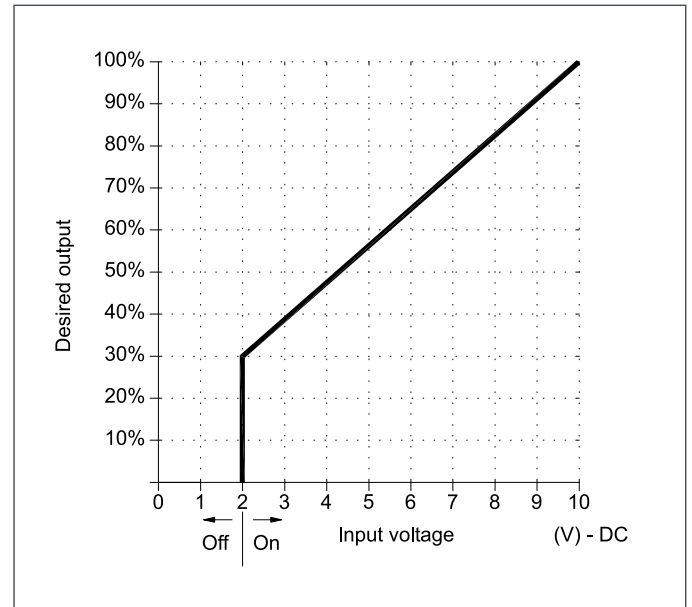

fig. 21 Output control via analog (0-10 Volt) signal
**Output based** - fixed parameters (30 to 100%), Set the  $\boxed{X}$  value of the boiler control setting parameter  $\boxed{R_1}$  to  $\boxed{5}$  (see fig. 21).